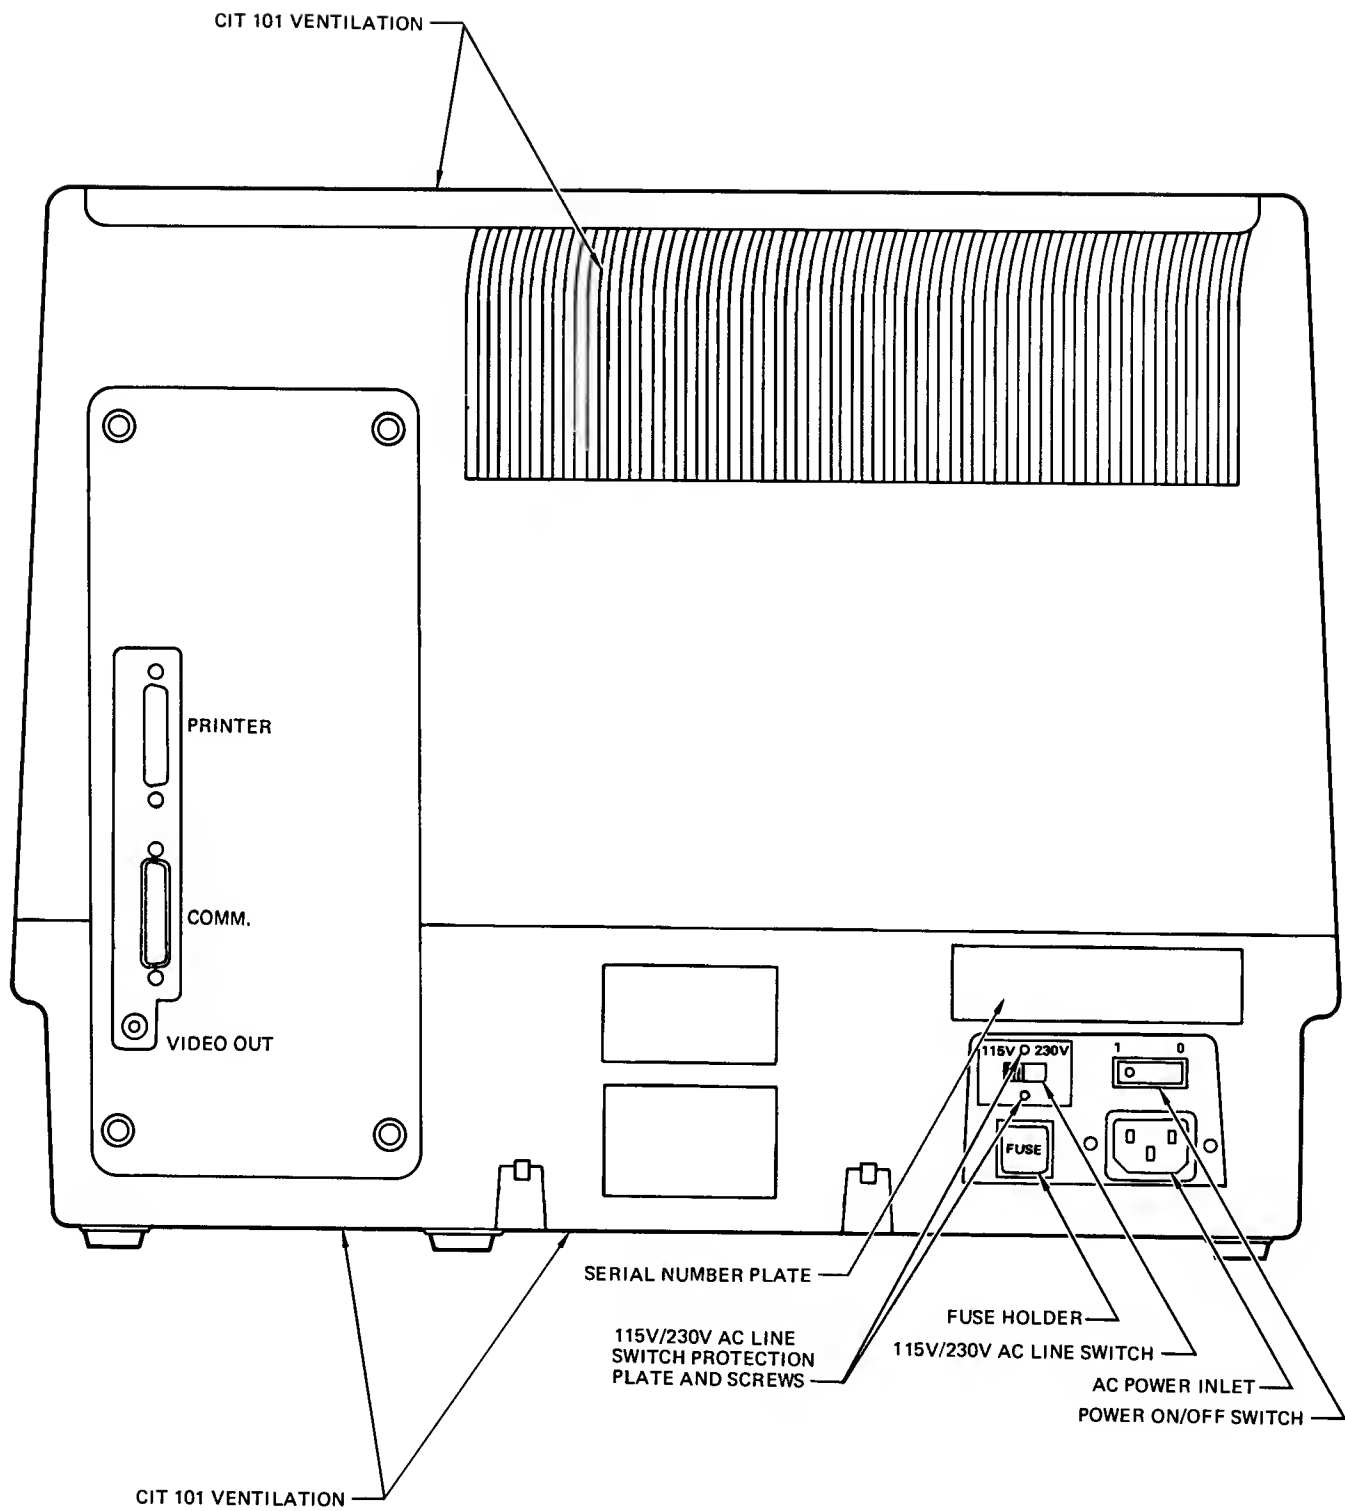

Figure 2-2. CIT-101 Connectors and Controls
2.6.2.2 AC Line Voltage Connection. Verify that the CIT-101 AC line switch setting is set to value of voltage supplied, refer to figure 2-2. If the AC line switch is not set to the proper voltage, perform the following:
Apply power using the power ON/OFF switch located on the rear of the terminal as shown in Figure 2-2. The CIT-101 should immediately respond with a beep tone, a pause of about 3 seconds, and a second beep of equal length. If the second beep is of the same duration as the first and no message appears on the screen, your unit has successfully completed self-test and is ready for connection to a host computer and terminal configuration. Refer to Section III SET-UP Modes, for more information about configuring the CIT-101 for your computer.
2.6.5.1 Communication Ports. In the standard system configuration the CIT-101 is interfaced with the host computer via the communication I/O port according to EIA RS232 or 20 ma current loop conventions. See Figure 2-2 for location of the communication and printer connector. The male D connector labeled COMM, located at the rear of the CIT-101 is used for host computer communication. Table 2-1 provides the RS232-C pin assignments for the COMM connector. Communication parameters, (eg: baud rates, parity, etc.), are selected via the SET-UP modes (refer to Section III).